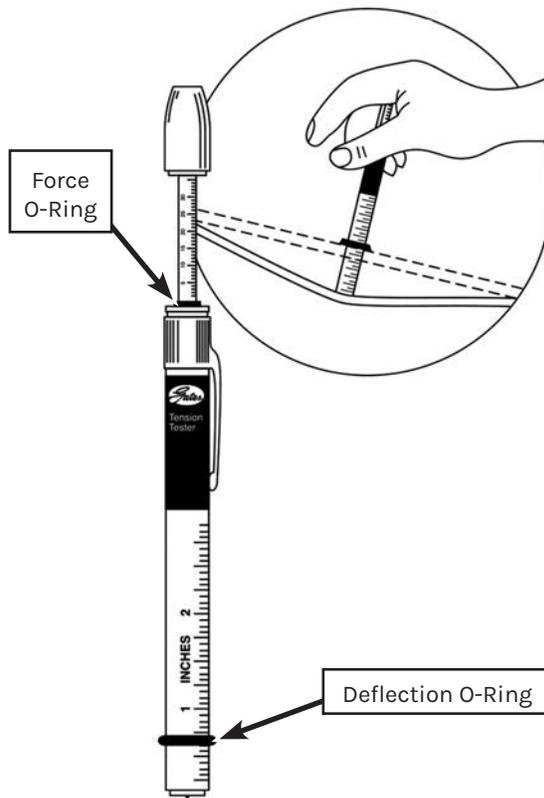
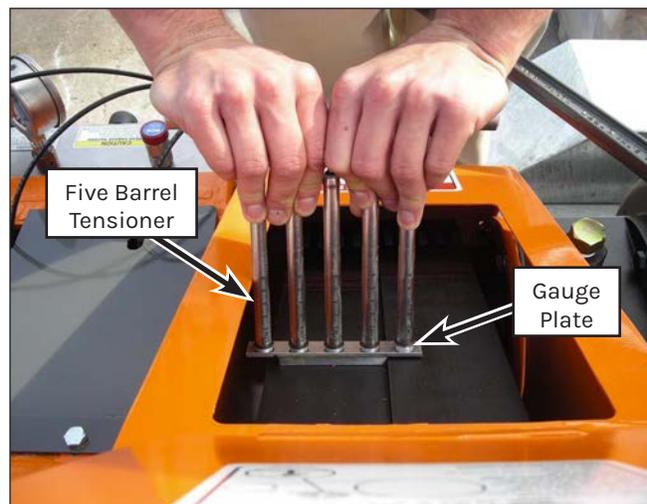

Figure 138: Single Belt Tension Tester.
Figure 139: Power Band Tensioning
4. Adjust the deflection O-ring (Figure 138) on a belt tension tool for the proper deflection as specified on the decal. Slide the force O-ring to the bottom of the scale. Use a five barrel tensioner if power bands are used on your unit (Figure 139).
5. Position the tension tool in the middle of one of the belts mid-way between belt pulleys. Press on the tool until the deflection O-ring is even with the adjacent belt. On five barrel tensioners, press until the gauge plate (Figure 139) touches the adjacent belt.
6. Release pressure and inspect the reading at the bottom edge of the force O-ring(s) (Figure 138) on the tension tool. Adjust